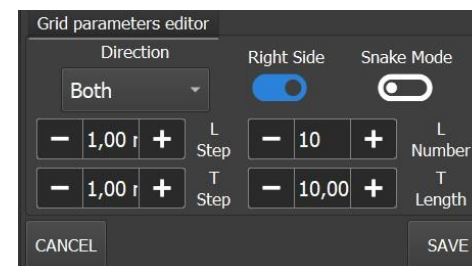
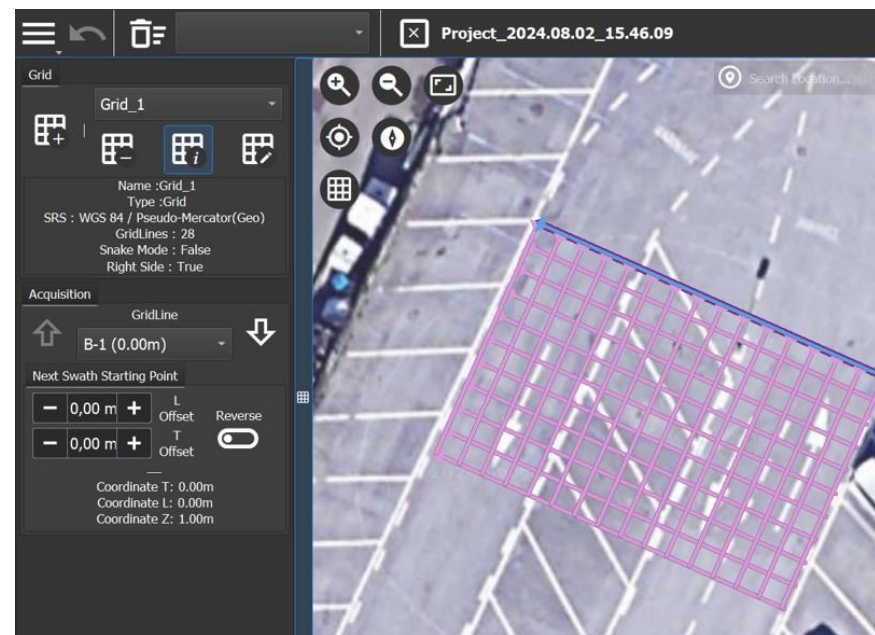

Fig. 30 Edit the VT-Grid
Fig. 31 Grid Parameters Editor
- Once the Baseline (and the Grid) is defined (Fig. 31), it can be edited (Fig. 30), by the following:
In the example below, a grid of 15 x 10 meters with 1 meters longitudinal and transversal offset, has been created (Fig. 31).